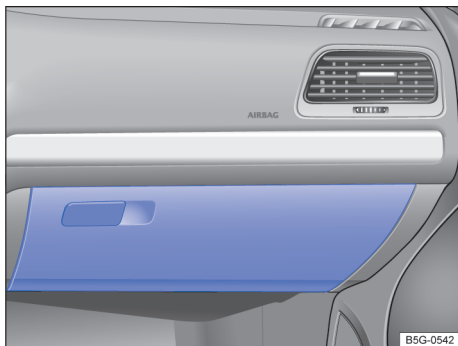

Fig. 127 On the passenger side: Glove compartment.
- To open: Pull the handle → fig. 127.